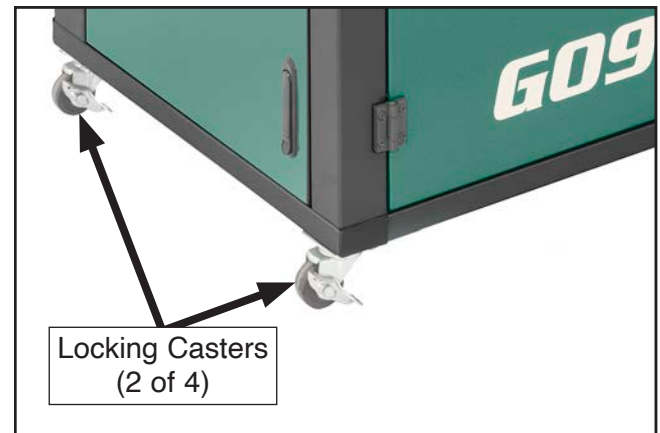

Figure 16. Location of locking casters.
6. Unlock locking casters (see **Figure 16**), and roll machine into desired location, then lock casters once in position.